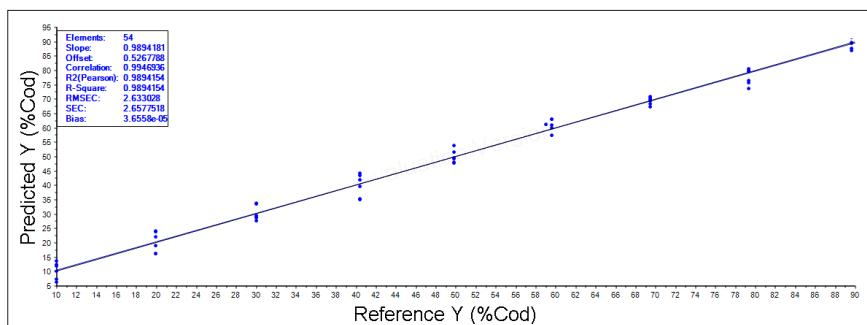

Figure 3. PLS regression for frozen/thawed Cod with Haddock adulteration (10–90%) calculation data.
Knowledge of the spectral properties of each fluorescence component greatly simplifies calculations of concentration of the individual components, which can be determined by decomposing the total emission spectrum. Figure 3 shows a typical example of the spectral decomposition emission spectrum measured from a post-operative emulsified sample with the second grade of nuclear cataract (NC++). The quality of the decomposition given by the shape and amplitude of the residuals function suggests that the elementary spectral components were correctly determined. We found that, for a statistically representative number of experimental samples, emission of OH-Trp, NFK and ArgP comprised the major portion of the total emission spectra. Assuming that the accumulation of PTMs causes
Figure 3. Fluorescent spectrum of the insoluble fraction of emulsified cataractous sample (A, black) and its decomposition determined from spectra of identified fluorescent derivatives of Trp and ArgP (B). Correlation of cataract grade with the normalised cumulative fraction for 21 emulsified eye lens proteins (C).
The study results for the potential fish adulteration also delivered excellent calibration results (e.g. Figure 3 for Cod with Haddock adulteration with R^2 value of 0.99). This issue occasionally rises its head in the normal newspapers for public consumption, such as